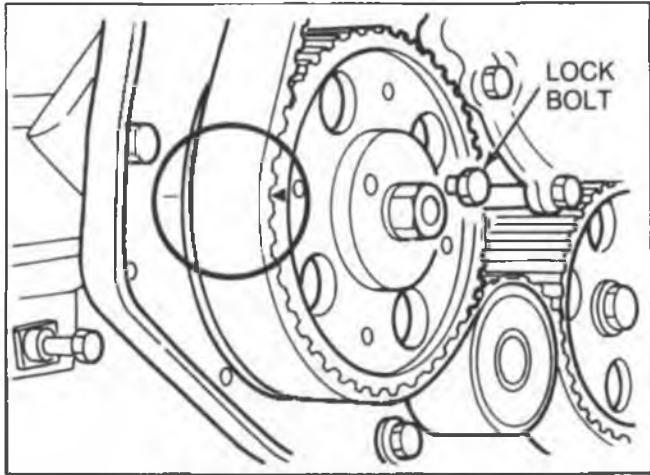

Fig. 4-30 Alignment Mark and Lock Bolt
13. Remove 4 bolts attaching the pump rear bracket and remove the rear bracket (Fig. 4-30).
3. Install the injection pump pulley by aligning it with the key groove. Align the mark on the gear with the mark on the front plate (Fig. 4-30). Then install lock bolt (M8×1.25). Tighten the nut using the lock bolt to prevent turning of pulley, torque nut to 60 N·m (45 ft. lbs.).